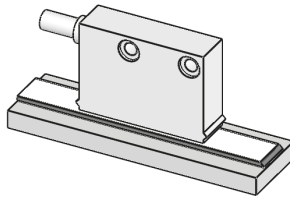

*Fig. 1: Mounting of the magnetic tape*
**Mounting (Fig. 1):**
1. Clean mounting surface ① carefully.
2. Remove protective film ② of the adhesive tape ③.
3. Stick down the magnetic tape ④.
5. Remove protective film ⑥ of the cover tape ⑤.